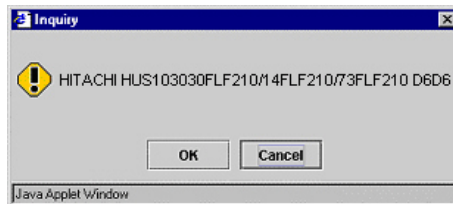

Figure 14.6.7 Confirmation Message
- (4) Click the [Install] button on the Figure 14.6.7, a confirmation message is displayed. Click the [OK] button when satisfactory. (Install is started)